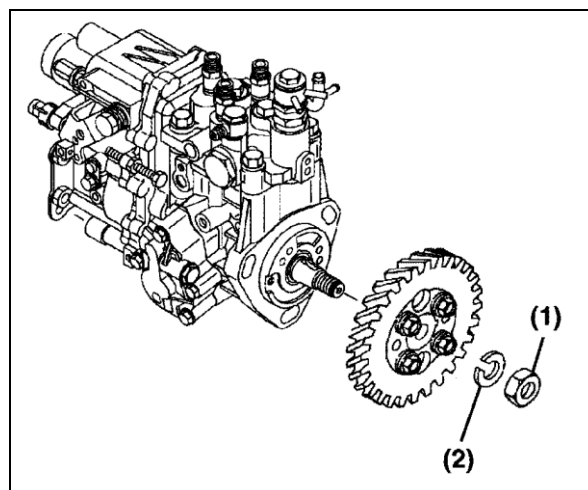

Figure 15
- (2) If installing the fuel injection pump on an engine with the front gear case cover removed, the fuel injection pump drive gear can be aligned with the idler gear by aligning the stamped marks (A, B, C) on the fuel injection pump drive gear, idler gear, and crankshaft drive gear. Ensure all 3 timing marks (Figure 15, (A, B, C)) are aligned.
- (4) Align the key on the fuel injection pump shaft with the keyway in the fuel injection pump drive gear hub. Reinstall the fuel injection pump into the fuel injection pump drive gear and gear housing. Reinstall the pump retaining nuts finger tight.
- (5) Reinstall the fuel injection pump drive gear lock washer (Figure 15, (2)) and nut (Figure 15, (1)). Do not lubricate the threads of the nuts or shaft. Hold the crankshaft pulley bolt with a socket wrench and tighten the drive gear nut to the specified torque.